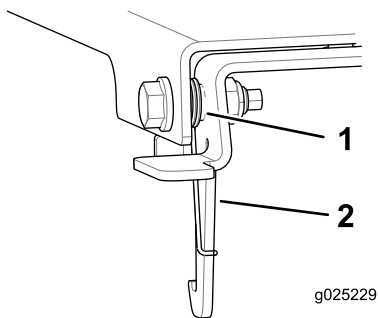

Figure 4
- Move the long end of the spring around the back of the latch (Figure 4).